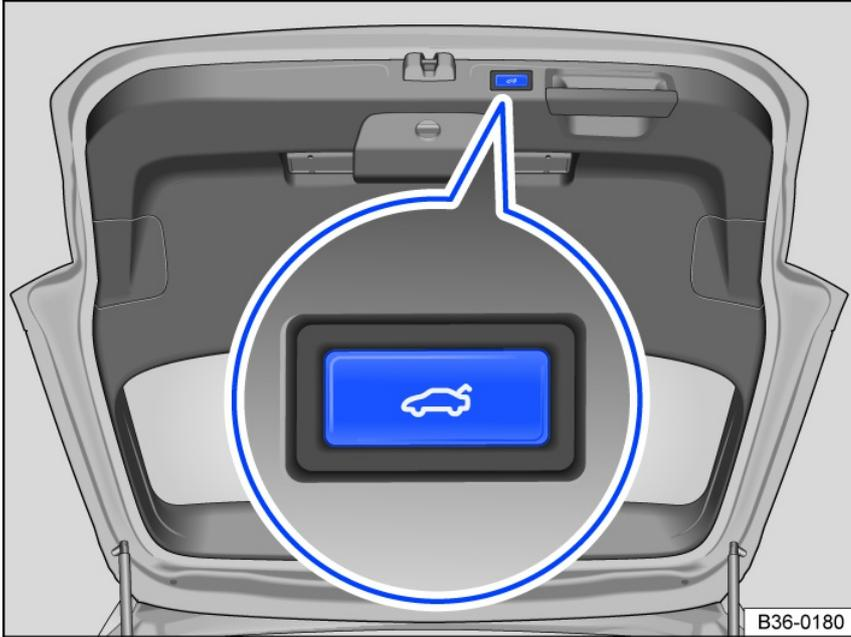

Fig. 67 In the open trunk lid: button for automatically closing the trunk lid.
- Easy Close-press the button fig. 67.